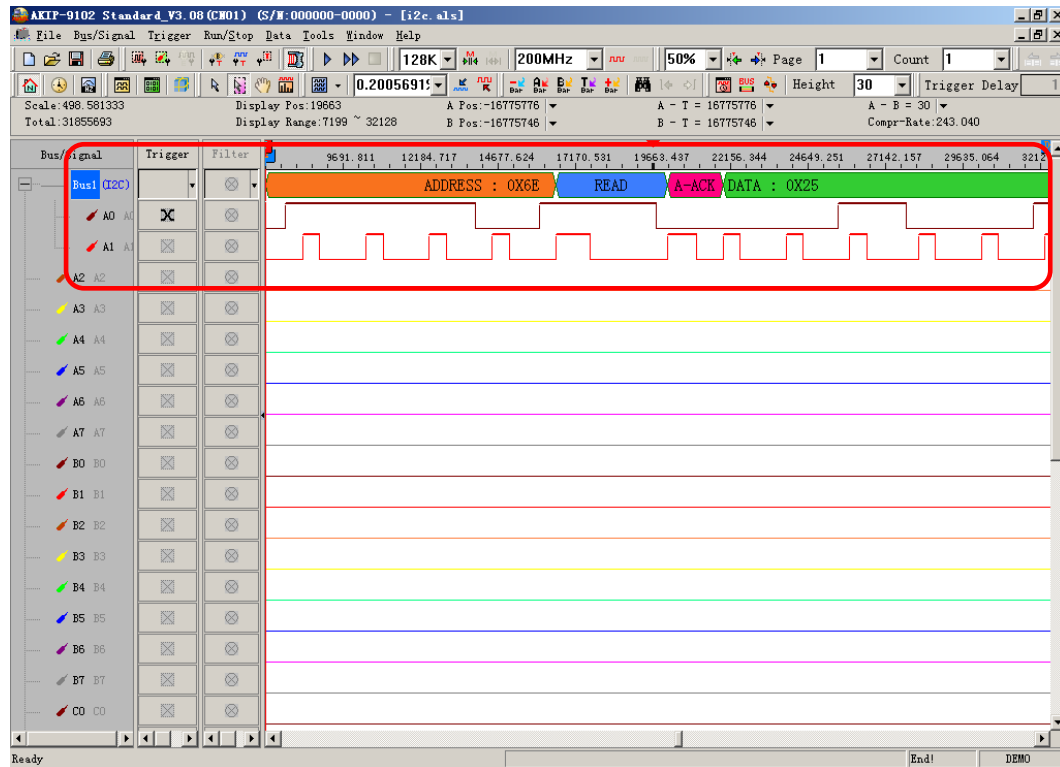

Fig 4-67 – Waveform Analysis
Step9. Click **Run** to acquire I2C signal from the tested I2C circuit. Refer to Fig 4-67.